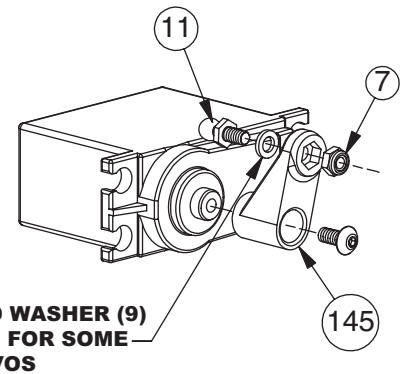
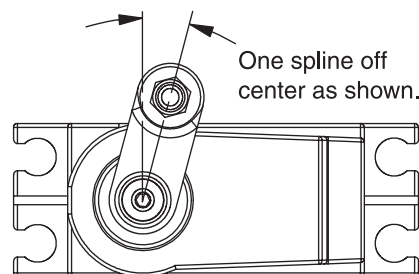

Figure 54A
Figure 54B
1. Using Table 55B (on the following page), determine which Servo Arm (145) is required for your Servo. If your particular Servo is not listed, try using the Arm recommended for another Servo made by the same manufacturer.
Some Servos may require the use of a Ball Stud Washer (9) placed behind the Ball Stud (11) for proper Servo Link alignment, as shown in Figure 54A.
2. Insert a 4-40 Mini-Locknut (7) into the hex area on the back side of the Servo Arm. Thread a 3/16" Ball Stud (11) through the hole in the Servo Arm, into the Locknut, and tighten.
3. Plug the Servo into the radio system's receiver (*not included*). Make sure that there is power to the Receiver, and turn the transmitter on followed by the Receiver. Be sure that the trim settings for the steering on your transmitter are set to the center. With the radio system still turned on, attach the Servo Arm to the output shaft so that the Arm is one spline off center in the direction shown in Figure 54B. Secure the Servo Arm with the screw supplied with the Servo.